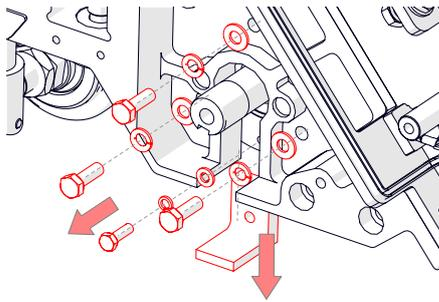

Fig. 16L - Remove bolts from LH cylinder bearing
13. Remove the 3 x M8 bolts supporting the left hand cylinder bearing [13 mm spanner] and M6 bolt supporting the side plate [10 mm spanner] (Fig. 16L).